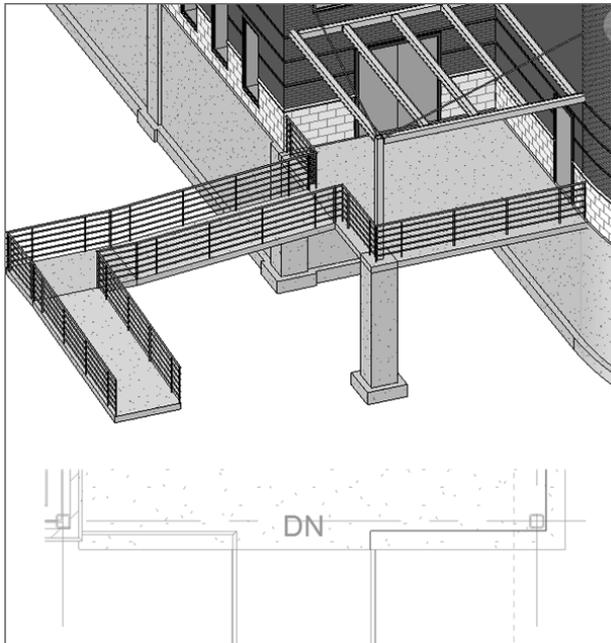

FIGURE 10.84: Adding the railing just as you've been doing this entire chapter
5. Draw a railing 8" (200 mm) in from the slab edge, as shown in Figure 10.84.